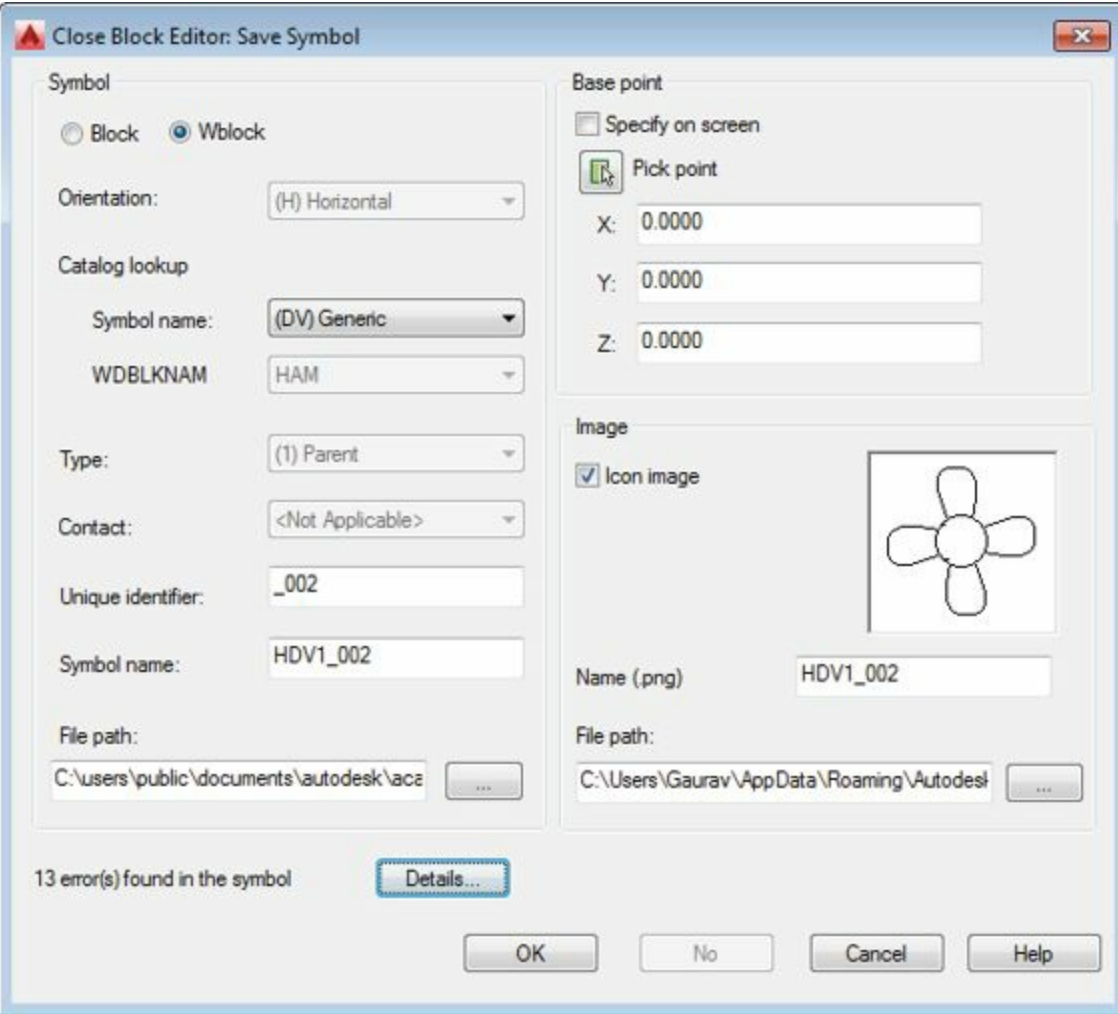

Figure-49. Close Block Editor dialog box
- Click on the **Done** button from the **Symbol Builder** contextual tab. The **Close Block Editor: Save Symbol** dialog box will be displayed; refer to Figure-49.